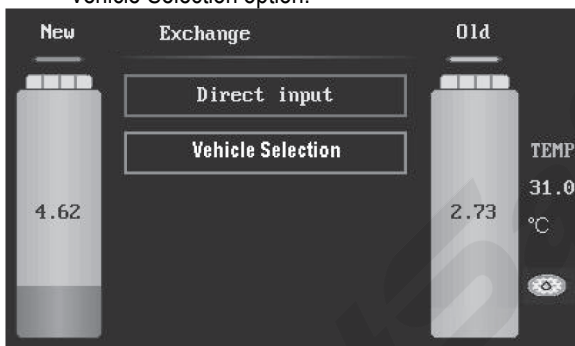

Fig.13
- 3) ATF exchange: as shown in Fig.13, you can directly input the fluid amount to be changed, as well as you can obtain the amount by selecting Vehicle Selection option.
Print is completed, the system will return to the interface as shown in Fig.13.